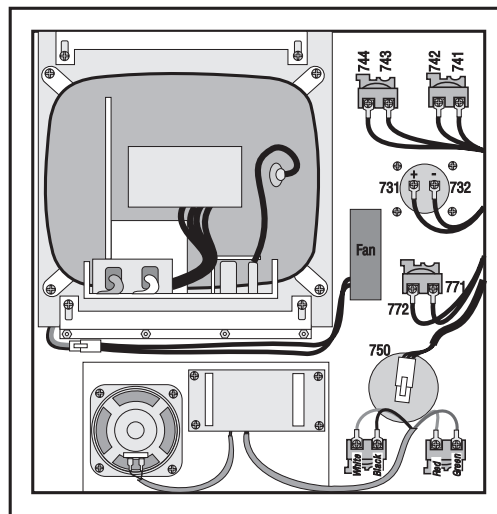

Figure 5-1. Interior of control panel (rear).
7. Replace by sliding the new assembly onto the eight bolts (four each on top and bottom). Starting with the bottom right, place the washers and hex nuts on the bolts to hold in place. Refer to Fig. 5-1 for the order of replacement. Once all washers have been attached and nuts have been hand-tightened, tighten down completely with the socket.
3. Disconnect all leads to the switch's connectors. Ensure all leads are properly marked for reconnecting later. Refer to Fig. 5-1 for proper locations.